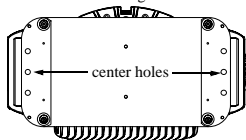

Figure 1. Attaching Mounting Hardware
1. Lay the fixture on its side and attach the mounting hardware to the center holes on the base. Refer to Figure 1.